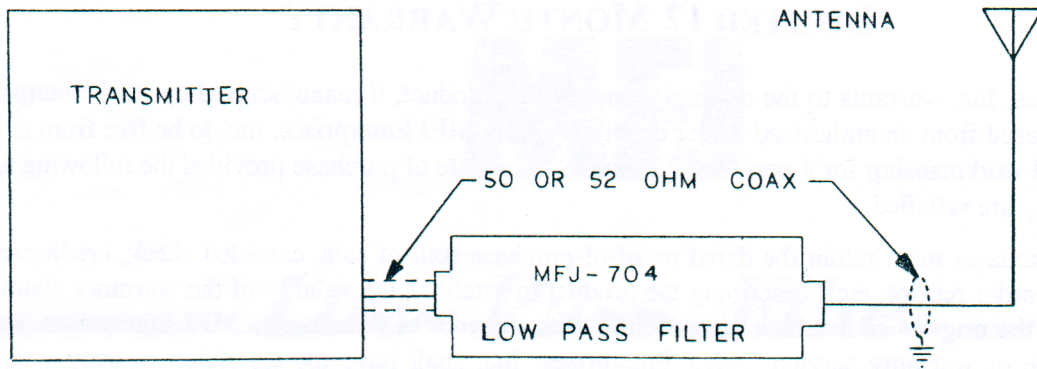

Figure 1 - MFJ-704 with XMTR and Antenna only.
2. Connect the output of the MFJ-704 Low Pass Filter to a 52 ohm load. This can be a linear amplifier, an antenna tuner, or a well matched antenna (52 ohms with no reactance via coax). See Figures 1, 2, and 3 on the following page for various hook-up diagrams.